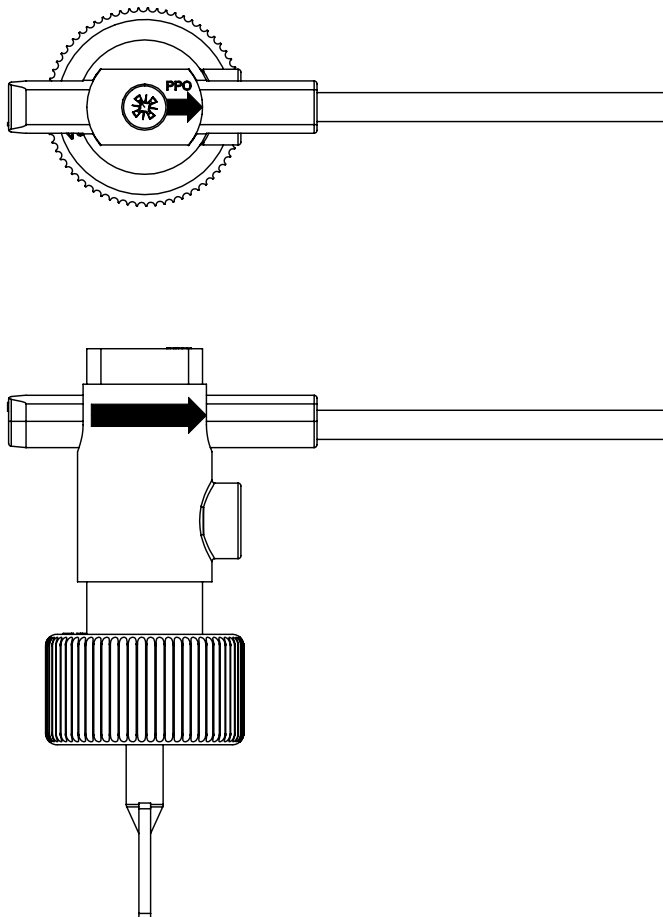

Figure 5-1: Flow Switch Direction
6. Install flow switch vertically in horizontal pipe with at least five straight pipe diameters on either side. See Figure 5-1.
10. A pressure relief valve is supplied with each boiler and must be installed vertically. Install at location and discharge direction shown using pipe nipple and elbow supplied. See Figure 5-1. Add piping so any water discharge will not damage boiler or other system components.
11. Install gate valves at locations in Figures 5-1 and Table 5-2, so any boiler servicing requiring removal of water can be done quickly and easily. Not illustrated but recommended is installation of air vents at high points of hydronic system to reduce initial startup time and help avoid element burnout during entire life of heating system.
12. Follow piping arrangement as illustrated in Figure 5-1 and Table 5-2. Inlet or return pipe is located at bottom of unit. Reverse flow will cause noisy operation and cause very early element failure. Drain cock is to be located at the lowest point of piping.